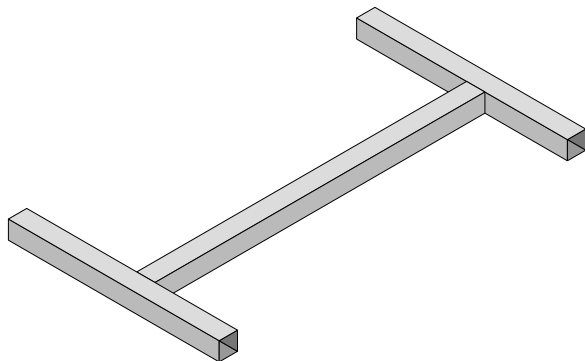

Figure 2: an H shaped centre frame.
- 3) Next make up the two H shaped central frames which will support the axle. Figure 2 shows one of these. Figure 3 shows how two pieces of square tube may be held in the right place when welding. Once you have made one frame, make the other the same by welding it on top of the first.